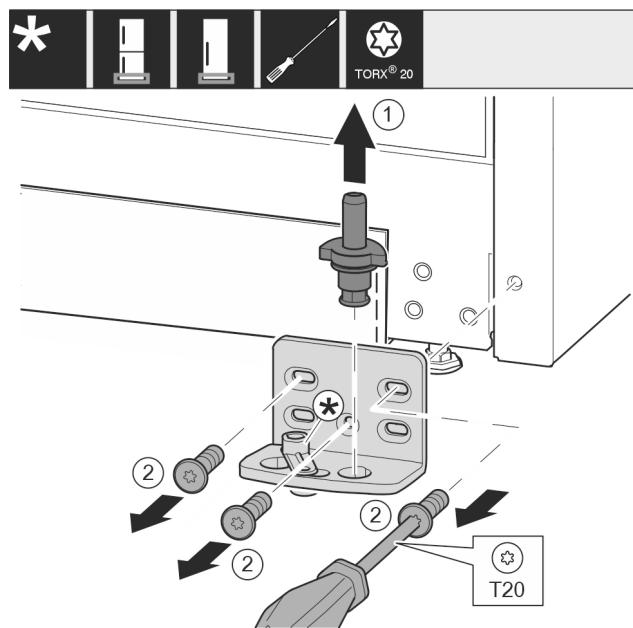

Fig. 16
- ▶ Completely pull out the bearing pin Fig. 16 (1) upward.
- ▶ Use a screwdriver to unscrew the screws Fig. 16 (2) and remove the swap bearing block.